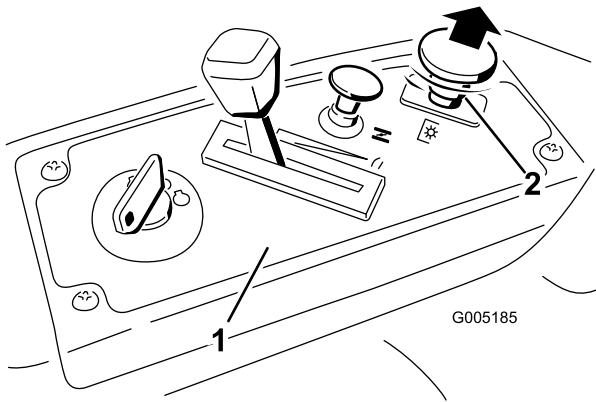

Figure 13
3. Pull up on the blade control switch to move it to the On position and engage the blades (Figure 13).